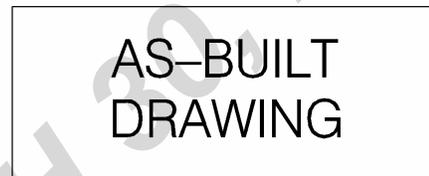

Figure 1 – As-Built Stamp
- In the border reference file, **turn on** level 17 to display the As-Built Drawing stamp (See Figure 1)